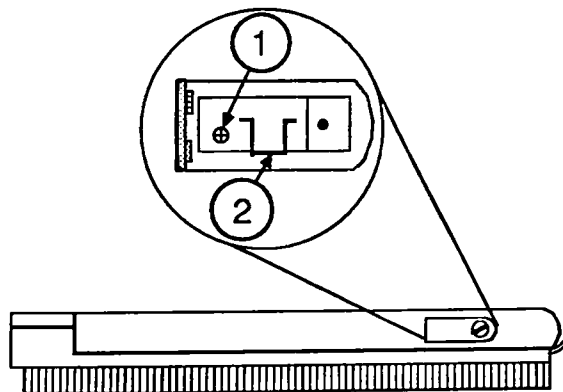

FIGURE 7
- Once the side door is opened, use a Phillips screwdriver to loosen the screw (Figure 7, #1) that holds the light bulb assembly to the optical block. (The screw does not come out.)
- Flip up the wire hook (Figure 7, #2) from the vertical position to the horizontal position.